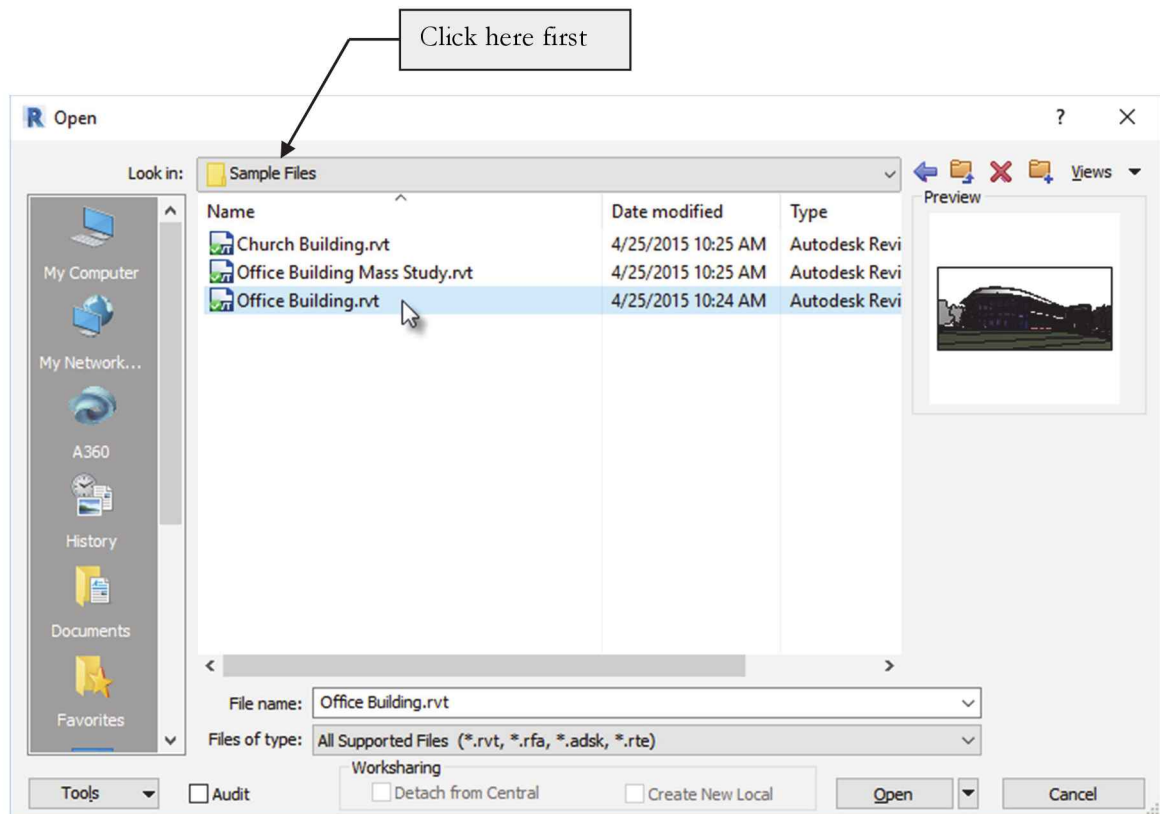

FIGURE 1-3.3 Open dialog; downloaded content from SDCpublications.com
- Click the drop-down box at the top of the *Open* dialog (Figure 1-3.3). Browse to your downloaded files (provided files need to be downloaded from SDCpublications.com).